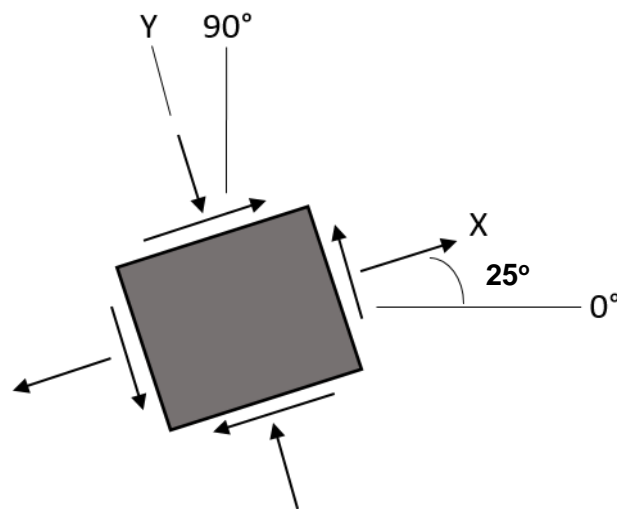

Figure 6
5. Determine the equivalent state of stress on an element at the same point for the following cases with respect to the element shown in **Figure 6** using Mohr's circle. Nominal stress in x and y directions are 350 N/mm^2 and 200 N/mm^2 , respectively, while shear stress is 400 N/mm^2 .